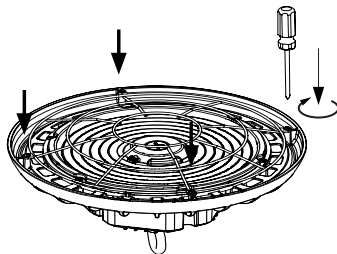

Figure 12
- 1). Put the wire guard on the fixture and fix it. (figure 12)